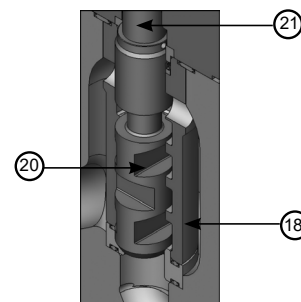

Figure 2: Plug, Liner, and Stem Guiding Surface
Guiding surfaces shown in Figure 2, including the liner (18), valve plug (20), and plug stem (21) must be checked. If there is only slight wear indications, then use a light abrasive to smooth out the specific guiding surface areas. Parts with greater damage or wear on the guide surfaces must be replaced.